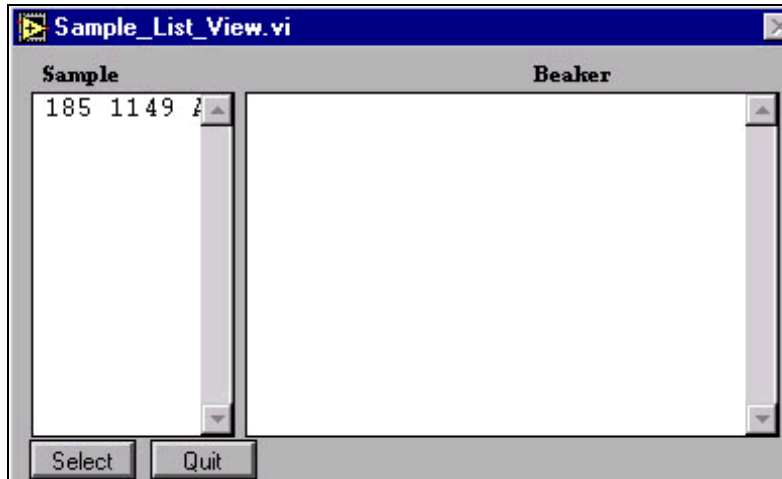

Figure 23. Select samples here.
2. Click on the current leg number to display all samples entered for that leg (See Figure 23).